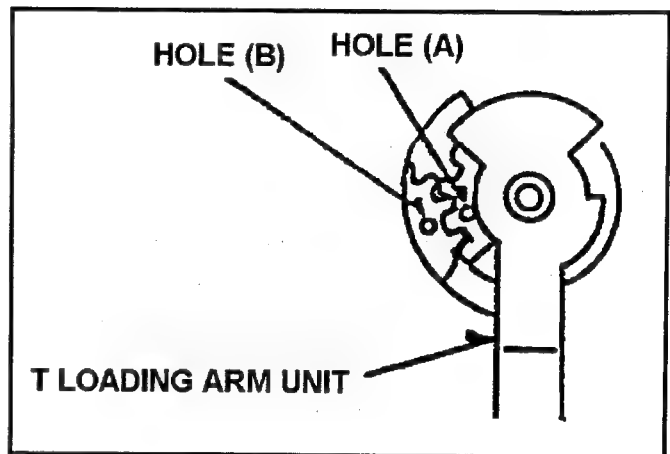

Fig. 6-14-1 Phase Adjustment of T1 Loading Arm Unit
1. When install the T1 Loading Arm Unit, then the hole (A) should be matched hole (B) as shown in Figure 6-14-1.
3. Post Height Pre-adjustment (Refer to item 5-4) and Linearity adjustment (Refer to item 5-13 [Tape Pass Adjustment Procedure]) should be performed.